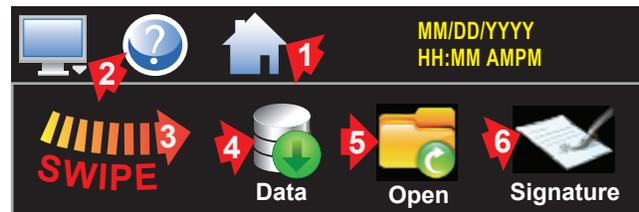

**Figure 37. Start Data Logging Icons**
1. Touch: (1)Home (2)Monitor (3)swipe left-to-right, touch: (4)Data (2)Monitor (5)Open list, select file. Touch: (6)Data ~ turns light green (2) Monitor (7)Annotation (Figure 37).